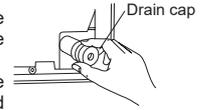

Figure 1
- Pull out the drain cap at the rear right of the indoor unit. (Figure 1)